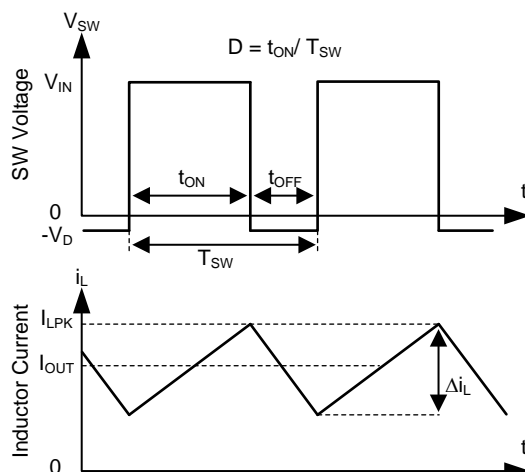

Figure 13. SW Node and Inductor Current Waveforms in Continuous Conduction Mode (CCM)
The following operating description of the LMR23625-Q1 refer to the Functional Block Diagram and to the waveforms in Figure 13. LMR23625-Q1 is a step-down synchronous buck regulator with integrated high-side (HS) and low-side (LS) switches (synchronous rectifier). The LMR23625-Q1 supplies a regulated output voltage by turning on the HS and LS NMOS switches with controlled duty cycle. During high-side switch ON time, the SW pin voltage swings up to approximately V_{IN} , and the inductor current i_L increase with linear slope $(V_{IN} - V_{OUT}) / L$. When the HS switch is turned off by the control logic, the LS switch is turned on after an anti-shoot-through dead time. Inductor current discharges through the LS switch with a slope of $-V_{OUT} / L$. The control parameter of a buck converter is defined as duty cycle $D = t_{ON} / T_{SW}$, where t_{ON} is the high-side switch ON time and T_{SW} is the switching period. The regulator control loop maintains a constant output voltage by adjusting the duty cycle D . In an ideal buck converter, where losses are ignored, D is proportional to the output voltage and inversely proportional to the input voltage: $D = V_{OUT} / V_{IN}$.